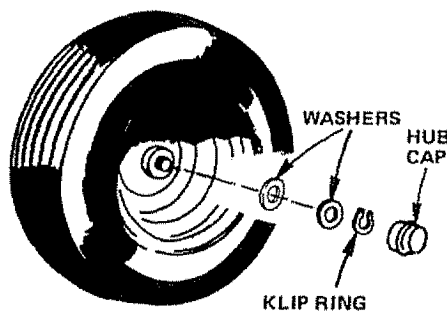

FIGURE 57
- Removing front wheel for tire repair (Fig. 57).
- Remove Hub Cap and (5) Hub Bolts to allow wheel removal.